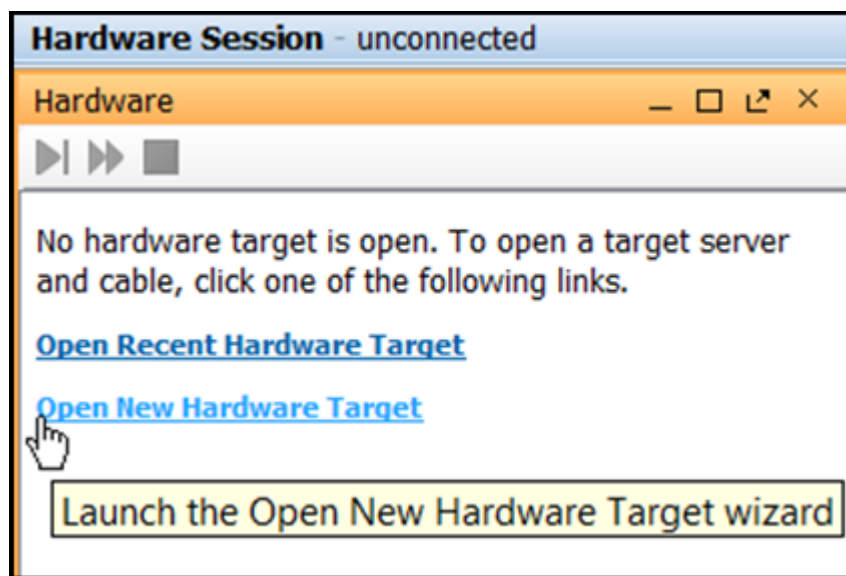

Figure 63: Launch Open New Hardware Target Wizard
2. In the Hardware window, click **Open New Hardware Target** to open a connection to the Digilent JTAG cable for ZC702 (Figure 63).